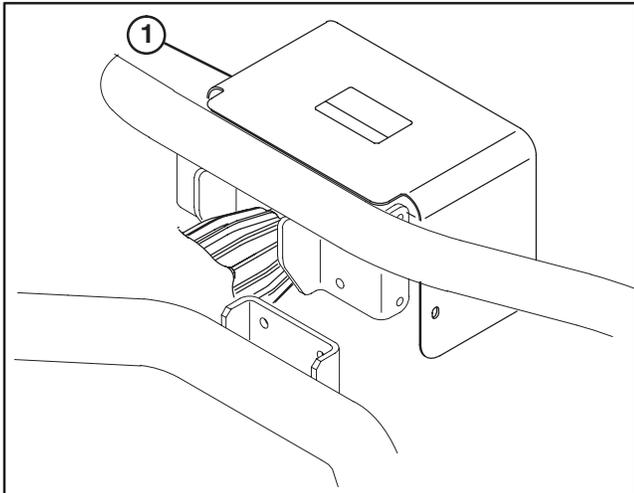

Figure 20
33. If vehicle is equipped with an optional rear PTO, remove (2) capscrews, spacers and lockwashers securing right side (passenger side) of PTO shield to rear frame bracket (Fig. 20).